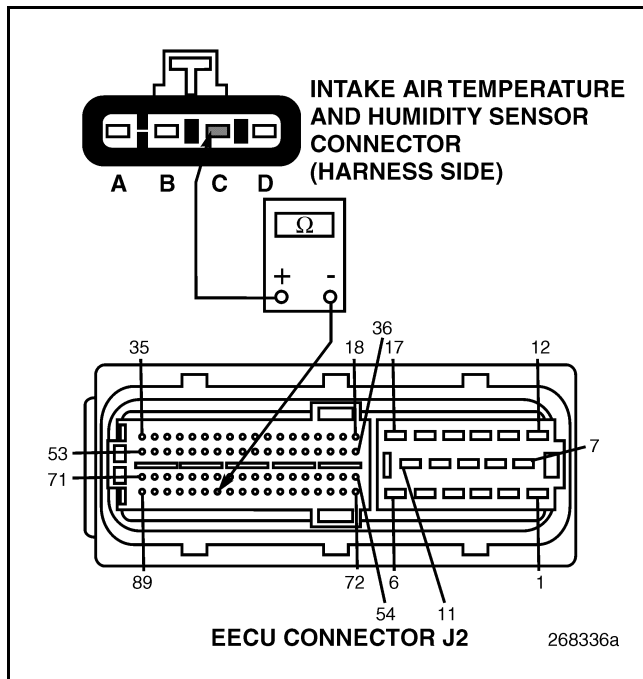

Figure 341
4. Check for continuity between IATH Sensor harness connector pin C (ground line) and EECU harness connector J2 pin 83 (see Figure 341).